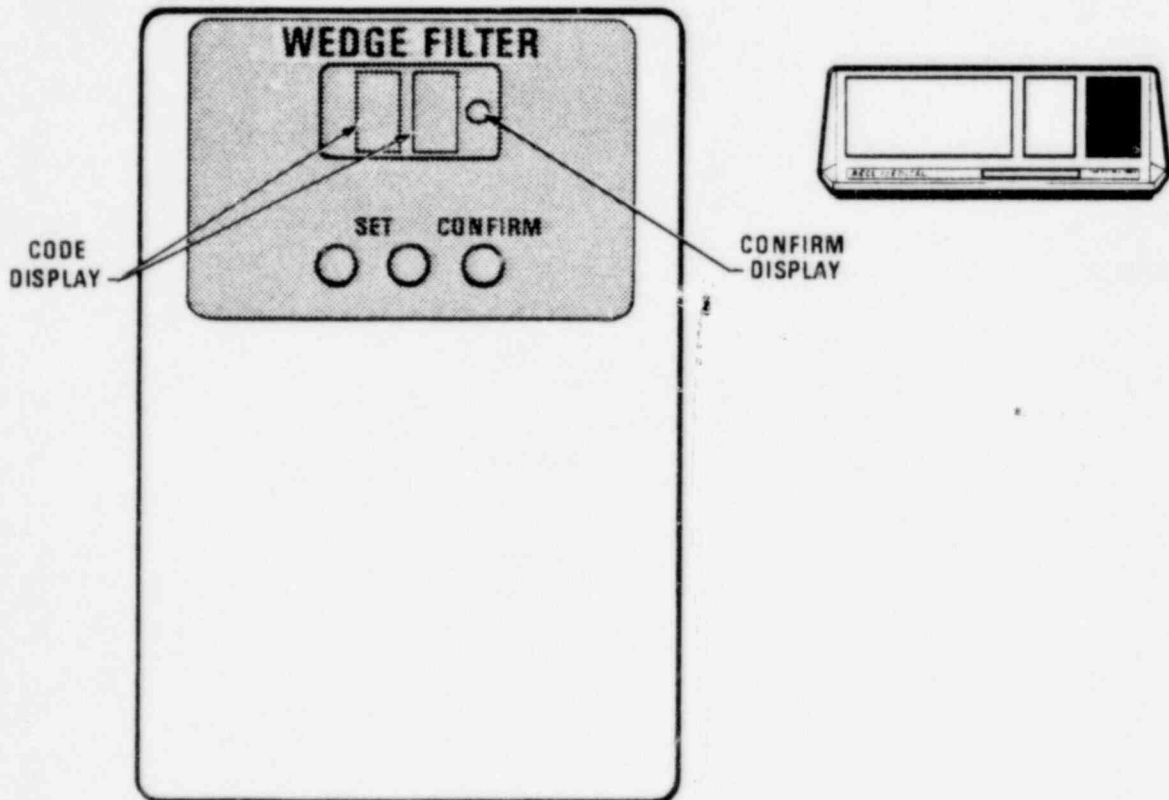

Fig. 3.5. Wedge Filter Interlock Panel
3.2.3 Wedge Filter Interlock Panel (Fig. 3.5)